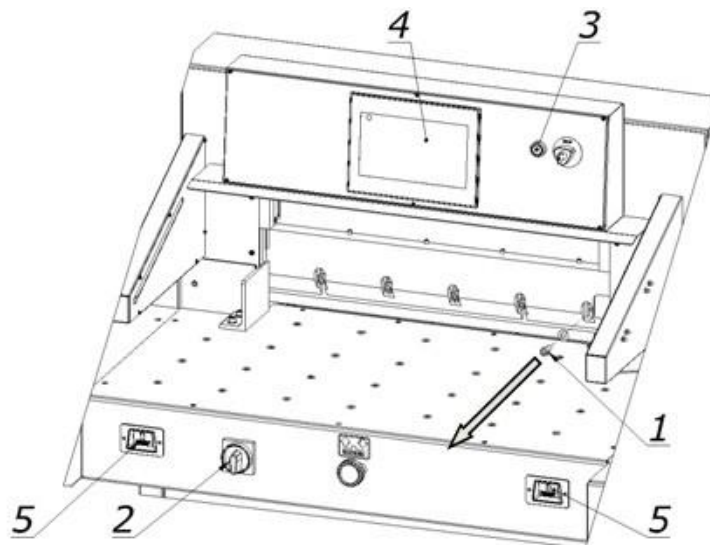

Figure.22
5. Unscrew and remove the first fastening screw 1 from the right side of the cutter bar (Fig. 22).
6. Switch on the power supply of the electrical system by turning the main switch knob 2 (fig.22) to position "I"
8. On the program screen 4 (fig.22), deactivate the "knife change" function
8. Press the "Change knife" function on the programmer screen 4 (Fig.22)
21. Switch on the power supply to the control system by pressing the green push button 3 (fig.22).